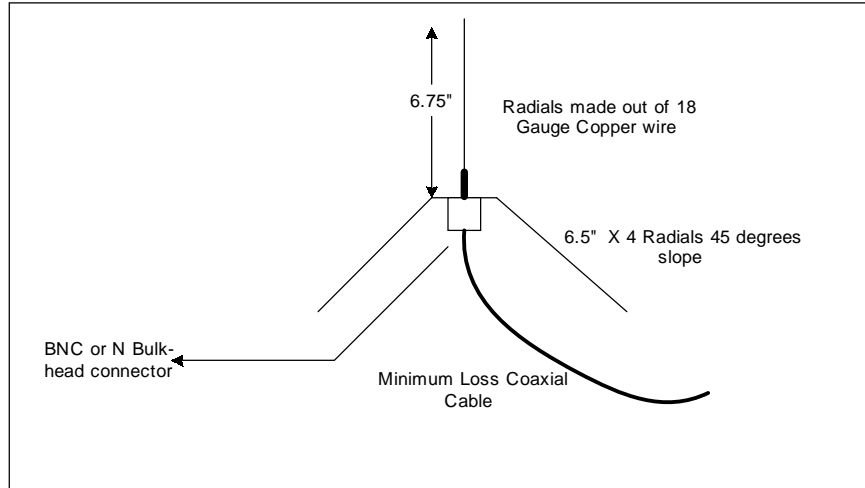

Fig. 4
- See Fig.4 for a simple homebrew ground plane antenna.